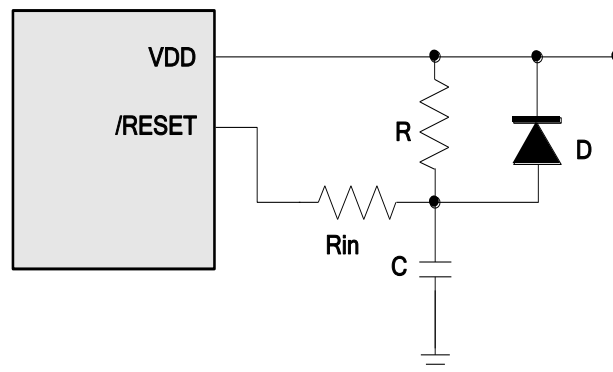

Figure 6-15 External Power-Up Reset Circuit
The circuit diagram in Figure 6-15 implements an external RC to generate the reset pulse. The pulse width (time constant) should be kept long enough for VDD to reach minimum operational voltage. Apply this circuit when the power supply has slow rise time. Since the current leakage from the /RESET pin is about $\pm 5 \mu\text{A}$, it is recommended that R should not be greater than 40K Ω in order for the /RESET pin voltage to remain at below 0.2V. The diode (D) functions as a short circuit at the instant of power down. The capacitor (C) will discharge rapidly and fully. The current-limited resistor (Rin) will prevent high current or ESD (electrostatic discharge) from flowing into /RESET pin.